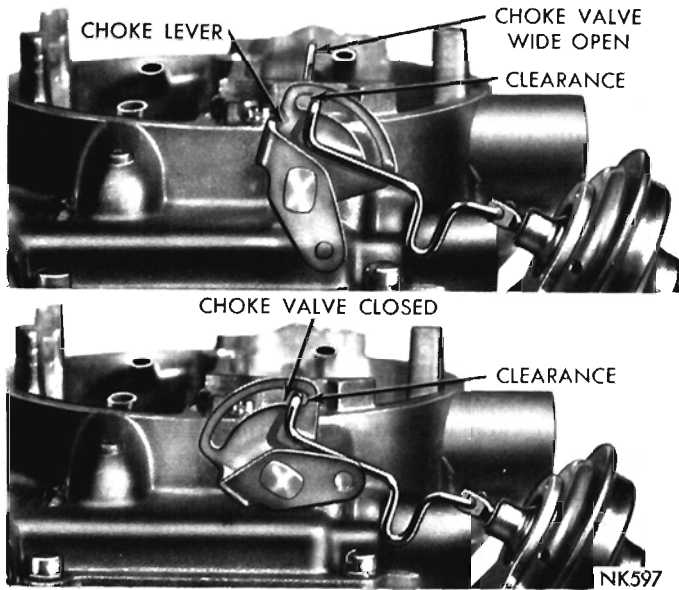

Fig. 16—Choke Operating Link Clearance
(8) With no vacuum applied to diaphragm, some clearance should exist between choke operating link and choke lever slot, in both open and closed choke valve positions, as shown in (Fig. 16). **This clearance is necessary to allow the choke valve to close for starting as well as fully open after the engine reaches the normal operating temperature.**